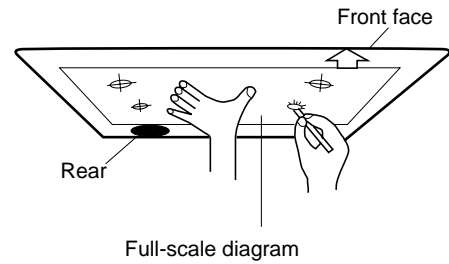

Fig. 3-1
- (1) Place the full-scale diagram (supplied) on the ceiling at the spot where you want to install the indoor unit. Use a pencil to mark the drill holes. Refer to Figs. 3-1 to 3-3.
- (1) When placing the unit inside the ceiling, determine the pitch of the suspension bolts using the supplied full-scale installation diagram. (Fig. 3-1)